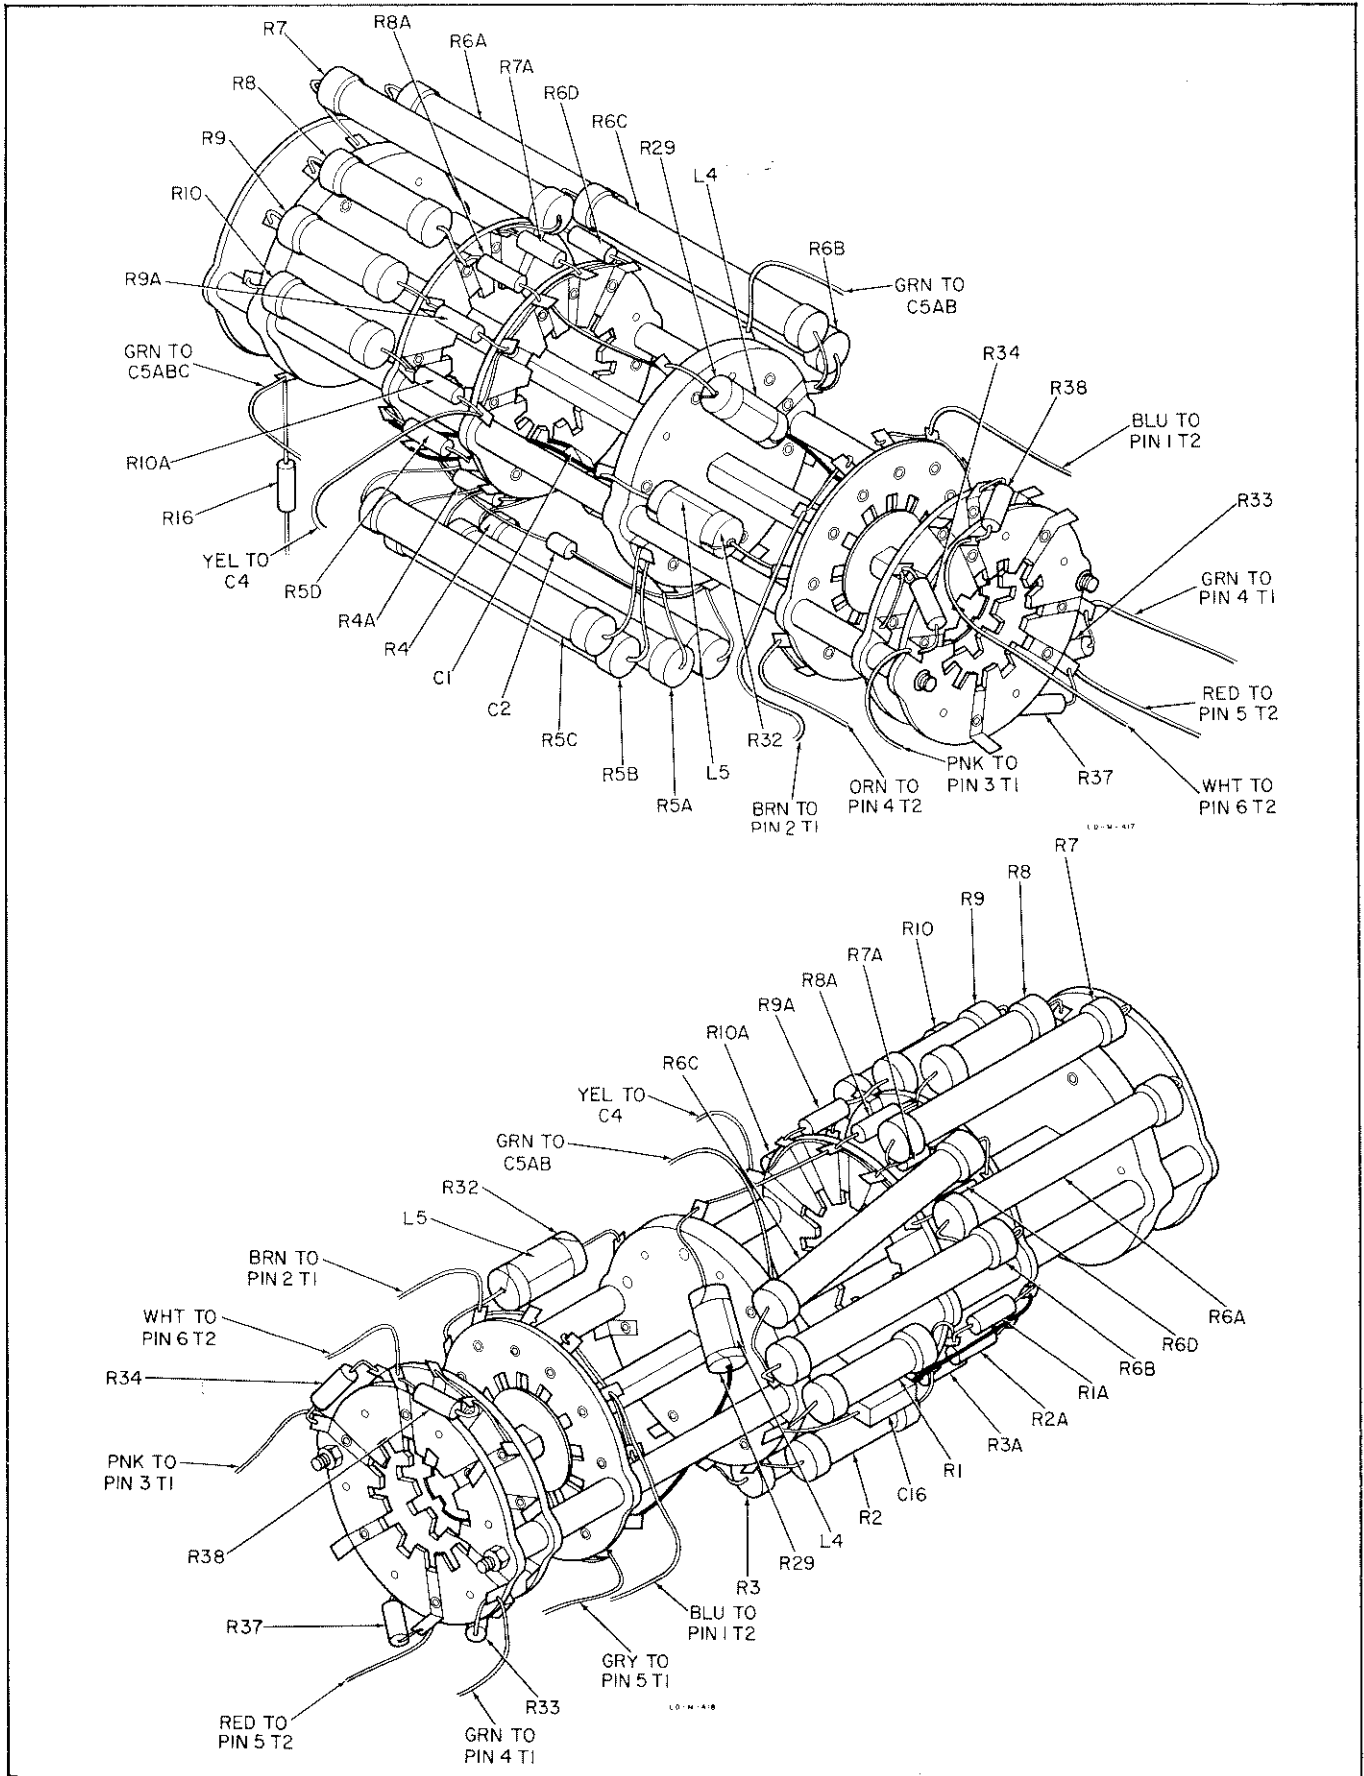

Figure 4-6. Range Switch Detail
- d. Using the 412A, 410B Electronic Voltmeters, or other suitable voltmeter, measure the positive and negative power supply voltages using ground as a reference. The positive voltage (approximately 225 volts) may be measured between the chassis and C14. The negative voltage (approximately 155 volts) is measured from the chassis to the junction of R30, R31, and R40 (figure 4-6). The difference between the negative and positive voltage should be 380 volts \pm 75 volts.
on all ranges. If one range is found to be badly out of calibration and all other possibilities have been exhausted (especially dirty RANGE switch contacts) try adjusting the value of C1, C2, C7 or C16 (depending on the range affected) slightly. If any part of the RANGE switch is found to be defective, it is recommended that the switch be replaced as an assembly. Figure 4-6 shows all wiring detail for replacement.